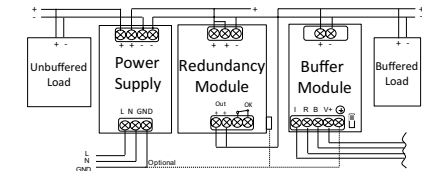

Figure 5
6. Typical Application (Fig. 5)